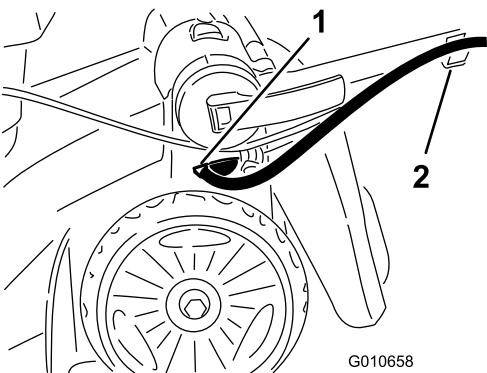

Figure 6
Note: Ensure that the white strip on the new wire harness is visible just past the opening in the mower housing (Figure 6).
- 15. Insert the wire harness into the handle clip (Figure 6).